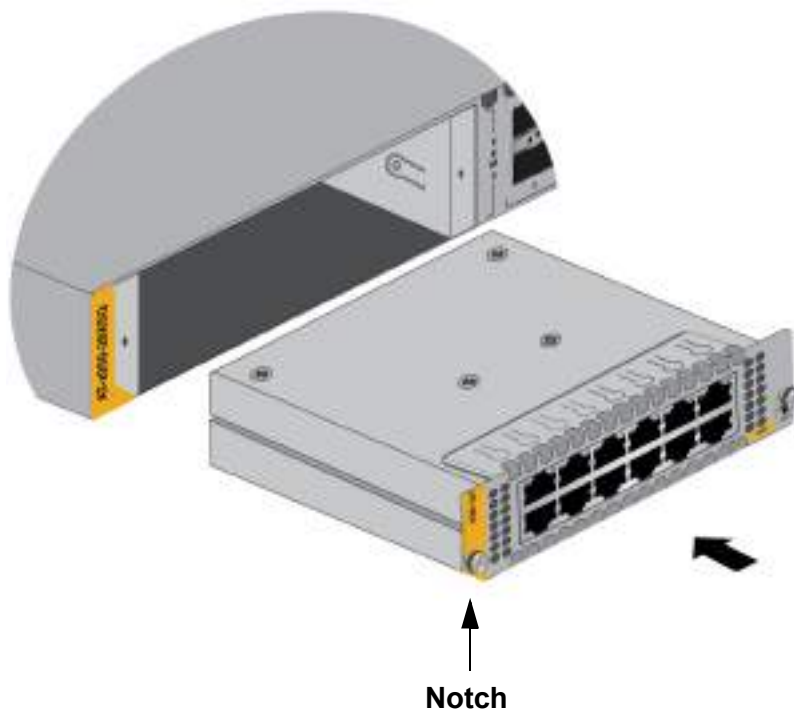

Figure 56. Sliding the Ethernet Line Card into the Slot
3. Position the line card with the notch on the faceplate in the bottom left corner, as shown in Figure 56, and carefully slide it into the slot.